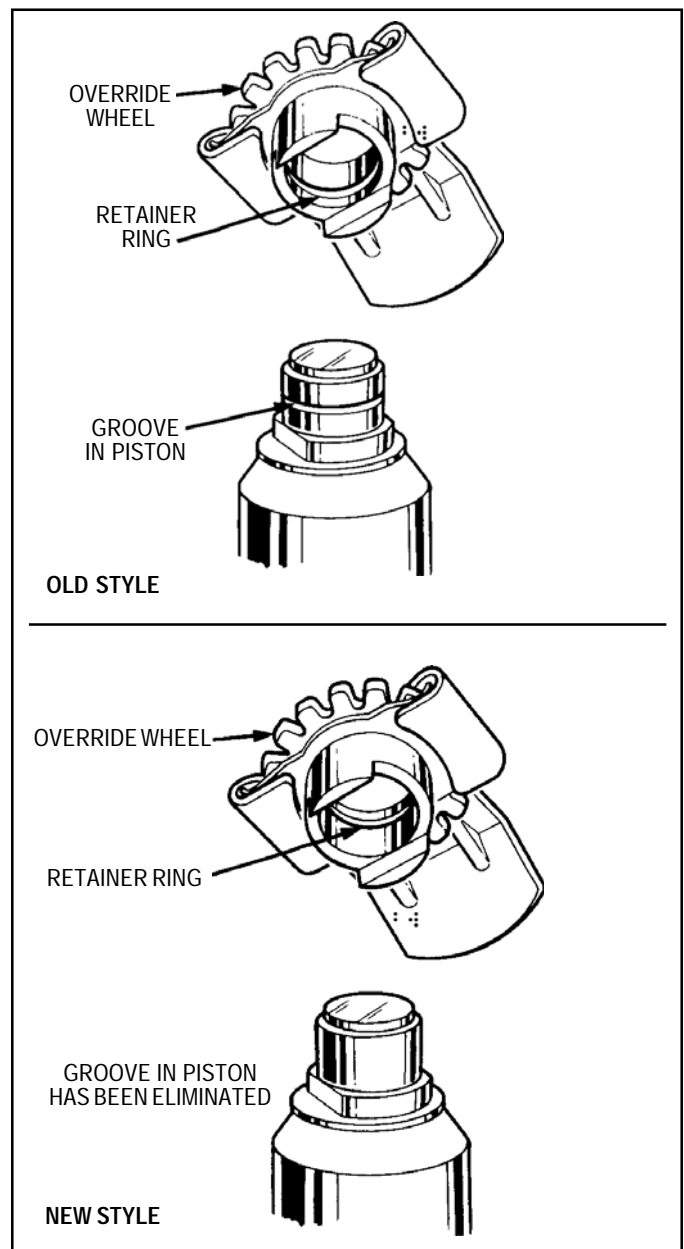

FIGURE 23 - NEW AND OLD STYLE PISTON AND OVERRIDE WHEEL
4. Install a new retainer into the override wheel and install the override wheel and tappet head onto the piston. On old style A2LS™ drum brakes, the override wheel had an internal retainer ring which also locates in a groove in the neck of the piston, *Figure 23*. The latest override wheel still uses the retainer ring but it is positioned further up the override wheel. The groove in the piston neck has been deleted.